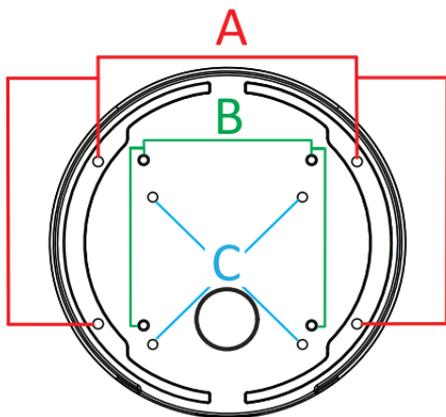

Figure 1
- Use the shown holes [A] in figure 1 if you are mounting the dome directly to a ceiling or wall.
- Use the shown holes [B] in figure 1 if you are mounting the dome directly to a wall mount adapter (Wall mount adapter not included).
- Use the shown holes [C] in figure 1 if you are mounting the dome directly to a junction box (Junction box and gasket not included).
- Mount the dome onto the ceiling by using mounting holes [A] as shown in *Figure 1*. If you are drilling a wiring hole in the ceiling/wall, make sure that the hole diameter is within 30 mm. To maintain IP66 weatherproofing, make sure to also use and correctly align the provided gasket with the hole to insulate the ceiling/wall and dome base.
Removing the internal camera assembly will give you access to the internal mounting holes [B,C] shown in *Figure 1* and the interior of the dome base area. The internal camera assembly does not need to be removed to access the internal mounting holes for [A].